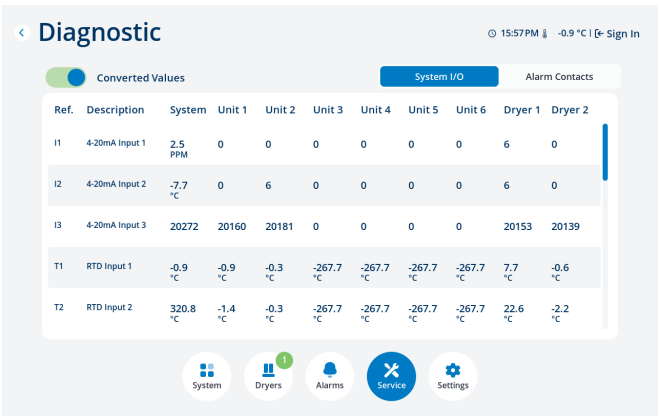

Figure D.3.9.2 Diagnostic Screen
- Diagnostic – Two tabs depicting the I/O status of the connecting unit controller board. The first tab (Figure D.3.9.2) lists the digital inputs (X1-X3 as 0 or 1), the analog readings (T1-T3, I1-I3, and P1-P2 with A/D values), the 24VDC powered digital outputs (Z1-Z4 as 0 or 1), as well as the statuses of “Fan Enable (Off/On)”, “Backup Switch (Open/Closed)”, and “Override Switch (On/Off/No)”. The values on the first tab can be displayed in their raw state as described above or as converted values changed into their corresponding units of measurement (Note: Values from disconnected I/Os may also convert, but these converted values are incorrect and should be